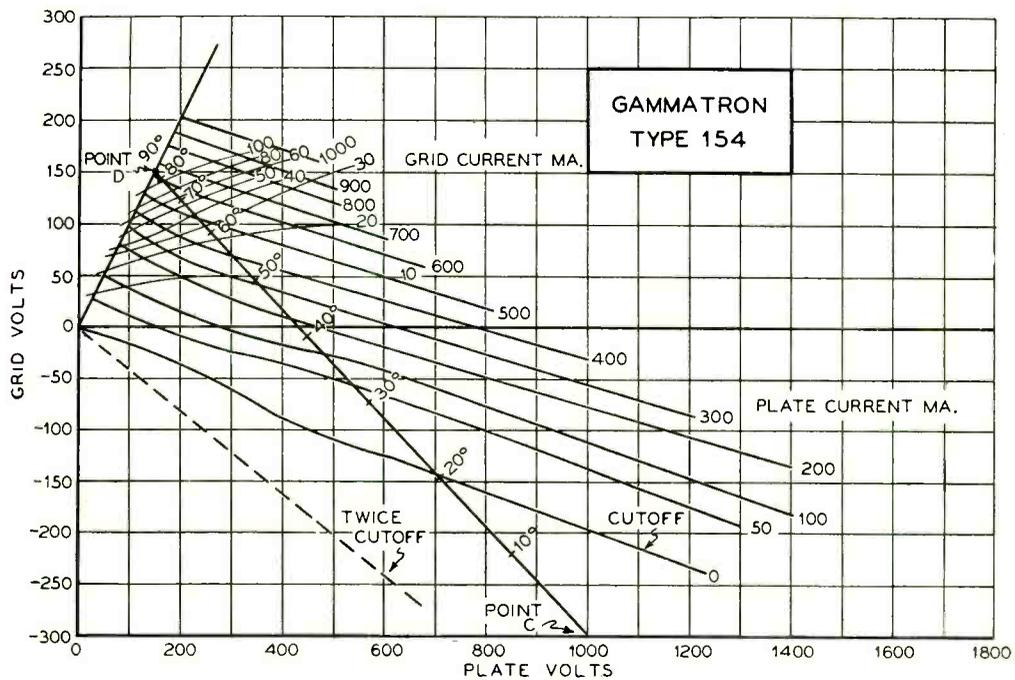
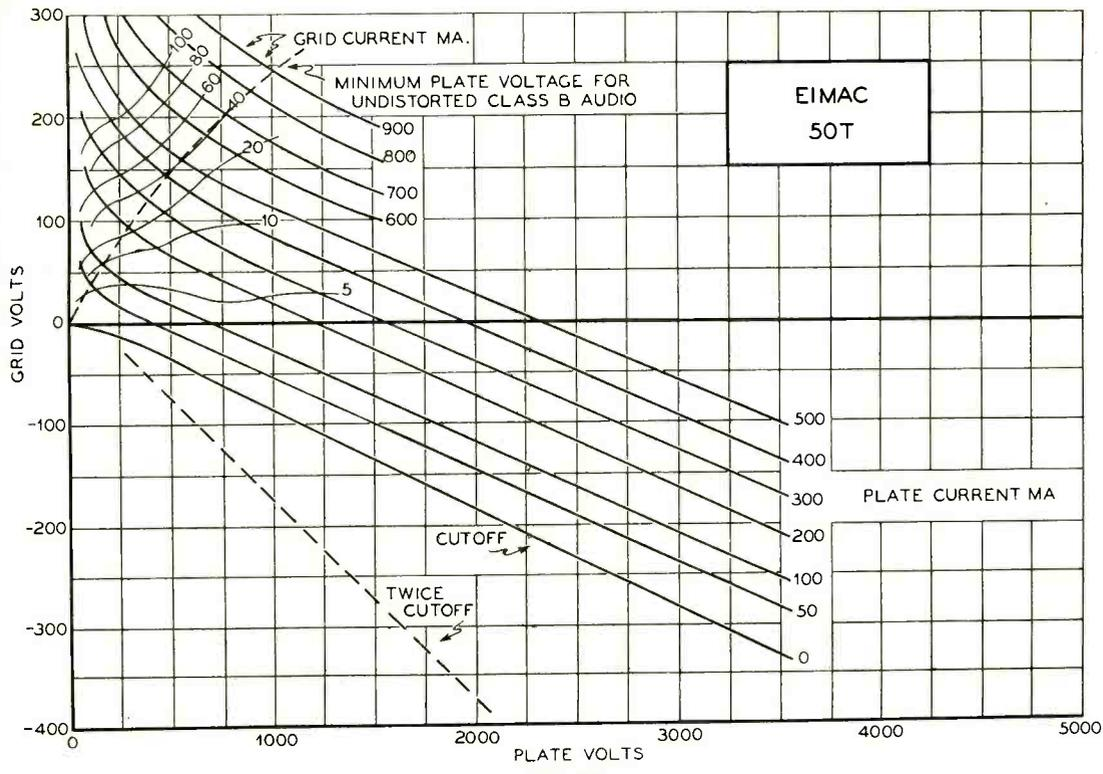
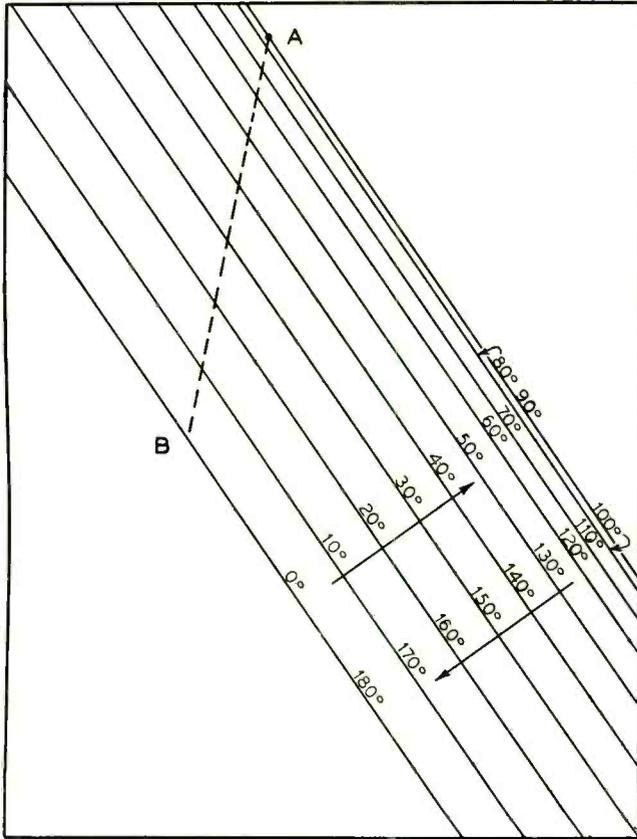
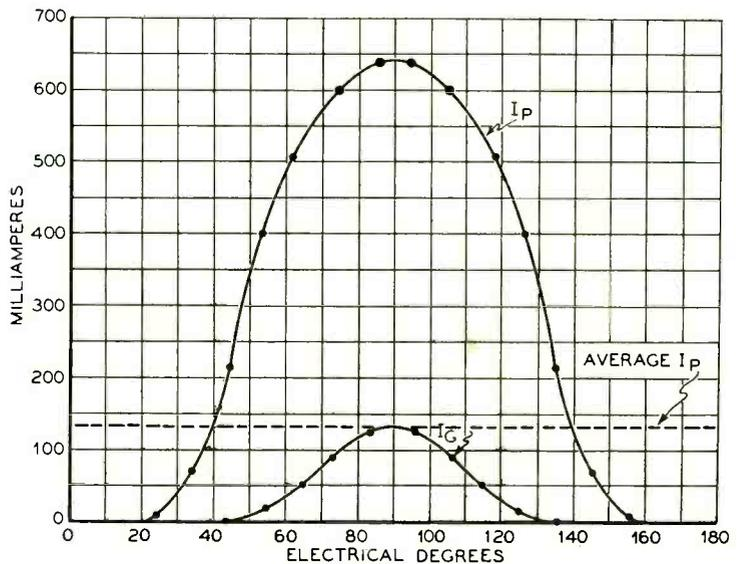

FIGURE 1
FIGURE 4
FIGURE 6
FIGURE 7
While the constant current type of curve has been used in other ways, its application to vacuum tube characteristics is a relatively new one. Their use was first suggested by Mourontseff and Kozanowski**. To the writer's knowledge, however, the Eimac people are the only ones who supply constant current charts for amateur transmitting tubes. Curves for the Eimac 50-T and 150-T are reproduced in figures 4 and 5. Figures 1, 2, and 3, showing constant current charts for the Heintz and Kaufman 154 and 354, and the RCA 801 were drawn by points transferred from the conventional E_g-I_g and E_p-I_p characteristics. The process of re-plotting is a relatively simple one which any amateur can do for his favorite final amplifier tube. Ordinary graph paper having 20 divisions to the inch is particularly well suited. The curves shown in figures 1 to 5 may be used as a guide in the selection of suitable scales for each square in these figures was half inch on a side before reduction.
The Gammatron 154 will be used for illustration, with 1000 volts on the plate. The bias required will depend upon the use, varying from $1\frac{1}{2}$ times to several times cutoff. The greater the bias, the higher the efficiency, but the greater the driving voltage required. Let us select the $1\frac{1}{2}$ times cutoff point. At 1000 plate volts (see figure 1) the cutoff point is -200 volts, placing the $1\frac{1}{2}$ times cutoff point at -300 volts. One end of the dynamic characteristic will then be at $E_p = 1000$ and $E_g = -300$ volts, or point C on figure 1.
To aid in marking off the intermediate degree points, the sine chart of figure 6 has been devised. Its use is as follows: Place an edge of a sheet of paper along the line C-D of figure 1 and mark the distance between C and D on the paper, labelling each mark with its own letter. Now place the piece of paper on figure 6 so that point D coincides with point A. Pivoting on this, swing the paper until the point C falls upon the 0-180 degree line near B. Holding the piece of paper in position, mark the paper where the 10, 20, 30 etc. degree lines meet the edge of the paper. We now have our length C-D divided into a sine scale and the points can be transferred to the dynamic characteristic of figure 1 as shown.
When the electrical angles are marked off on C-D of figure 1 in 10 degree intervals, a plot of the plate and grid current pulses (similar to figure 7) can be made. The plot is not essential to the analysis, but for the first time it aids in the visualization of what goes on. No plate current flows until we go up the dynamic characteristic to about 22 degrees, where we cross the plate current cutoff line. At 35 degrees the plate current is about 70 ma., at 45 degrees about 220 ma., and so on.
At the 42 degree point the zero grid voltage point is passed and grid current starts to flow. For 55 degrees the plate current is about 400 ma. and the grid current about 15 ma. This procedure is followed to the 90 degree point, or the crest of the r.f. excitation cycle. A glance at figure 6 shows that the same scale for sines is followed from 90 to 180 degrees except that we descend from D to C and add our 10 degree intervals to 90 degrees. Thus in descending, 80 degrees is the same as 100, 70 the same as 110, etc. The simplest method, knowing the current pulses of figure 7 to be symmetrical, is to read points from 0 to 90 degrees and to plot the same current for the same number of degrees on either side of 90.
E_B = plate power supply voltage (point C on figure 1)
E_{\min} = Lowest value to which plate voltage swings throughout the cycle (point D figure 1).
E_{\max} = The most positive voltage the grid attains throughout the cycle (point D figure 1).
After plotting the grid and plate current pulses to scale as in figure 7, the average plate and grid currents (those which would be indicated by a d.c. milliammeter) are found by integration of the pulses over 360 degrees, one complete cycle. This integration may be performed in many ways, one of the simplest being that of taking the value of plate and grid current for every 10 degrees throughout the complete cycle and averaging them. The height of the curve at the mid-point of each 10 degree strip for the pulse is tabulated. By dividing the number of these 10 degree strips per cycle (36) into the total value of the mid-ordi-
One important conception is that the electrical angles of figures 1 and 7 are really func-
tions of time. The "angle of flow" of the plate current pulse of figure 7 is about 130 degrees. The smaller this angle (obtained by higher bias) the higher the class C amplifier efficiency, but the lower the power output per tube. For amateur work in which tube costs are a consideration, about twice cutoff is best.